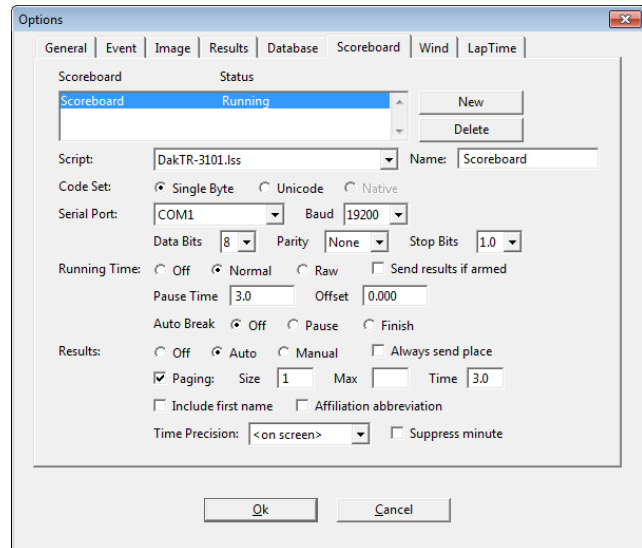

Figure 12: Scoreboard Options for TR-3101
3. Set up the scoreboard options on the FinishLynx computer as follows (refer also to *Figure 12*):